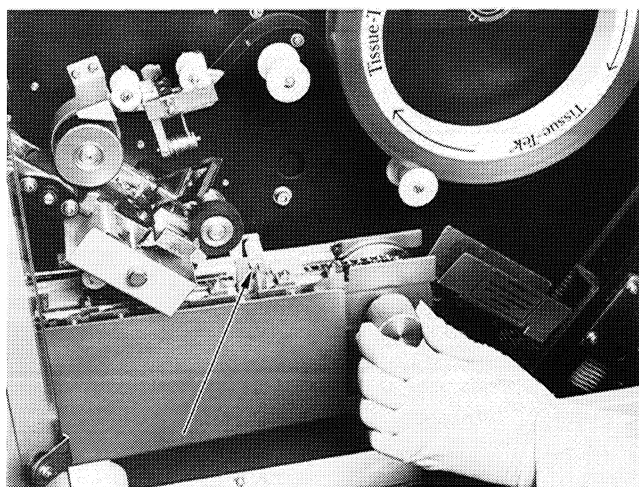

Figure 4-8
- b. Open the doors and lift the pressure roller onto the small catches on each side of the roller. This will prevent the roller from coming into contact with the unprotected specimen as the slide passes underneath. Then turn the manual crank on the conveyor in a clockwise direction to move the slide along the conveyor (Figure 4-8).